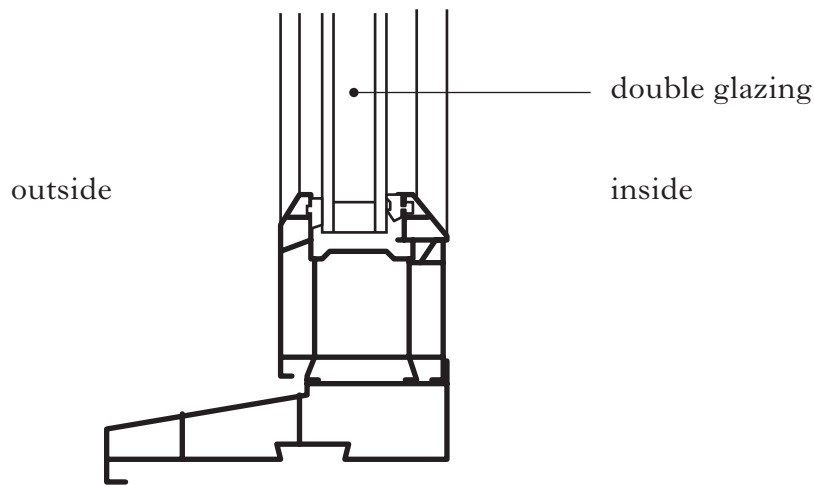

Figure Q9(e)
- (e) **Worksheet Q9(e)** shows an incomplete vertical section through the sill of a window opening. The simplified vertical section through the sill of a uPVC window frame is shown in **Figure Q9(e)**.